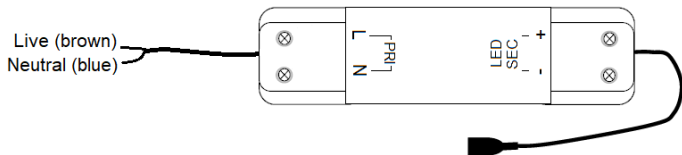

Fig. 2
- Connect the driver to the mains supply ensuring that correct polarity is observed (see Fig. 2): L - Live (brown), N - Neutral (blue)